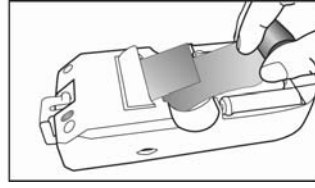

Fig.6-12
4. When the paper comes out from the outlet as shown in Fig.6-12, it means that the printing paper is installed well. The unit will perform printing.